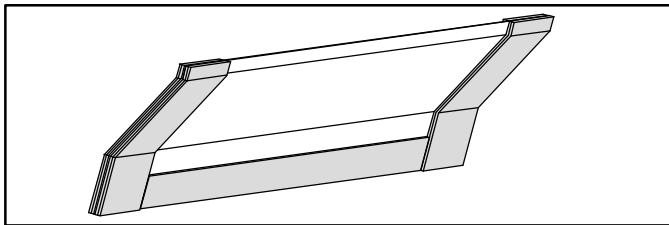

Figure 6. Tape Application
16. Apply the longer piece of foam tape on one side between the pieces on each end. This piece of tape is 1" wide and should be trimmed to fit (see figures 6 and 7).
NOTE — Insulating tape is required along the full length of the bottom of shields used with ACBX32CM, CB27UH, CBX27UH, CB30M, CBX32M, CBX32UFO, CBX40UHV and smaller CB29M units to ensure a good seal (see figures 6 and 7).